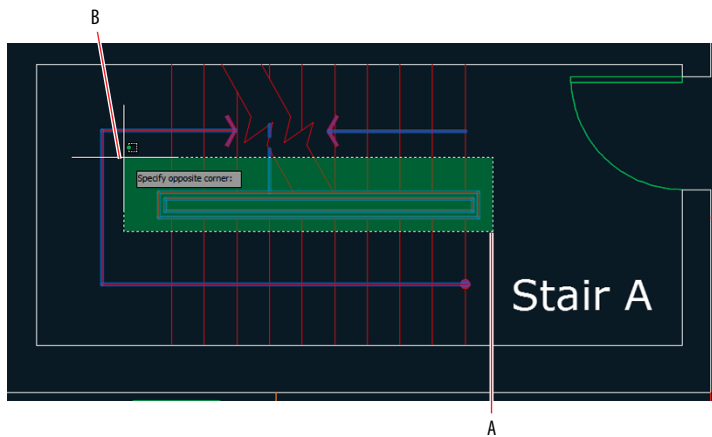

FIGURE 4.3 Drawing a crossing window to remove objects from the selection set
5. Click point A and then B, as shown in Figure 4.3. When you click the first point on the right (A) and move the cursor to the left (at B), a transparent green *crossing window* appears between the points. Whatever the green window crosses is selected. The crossing selection removes the handrail and two of the stair treads because the selection was made at the Remove objects: prompt.